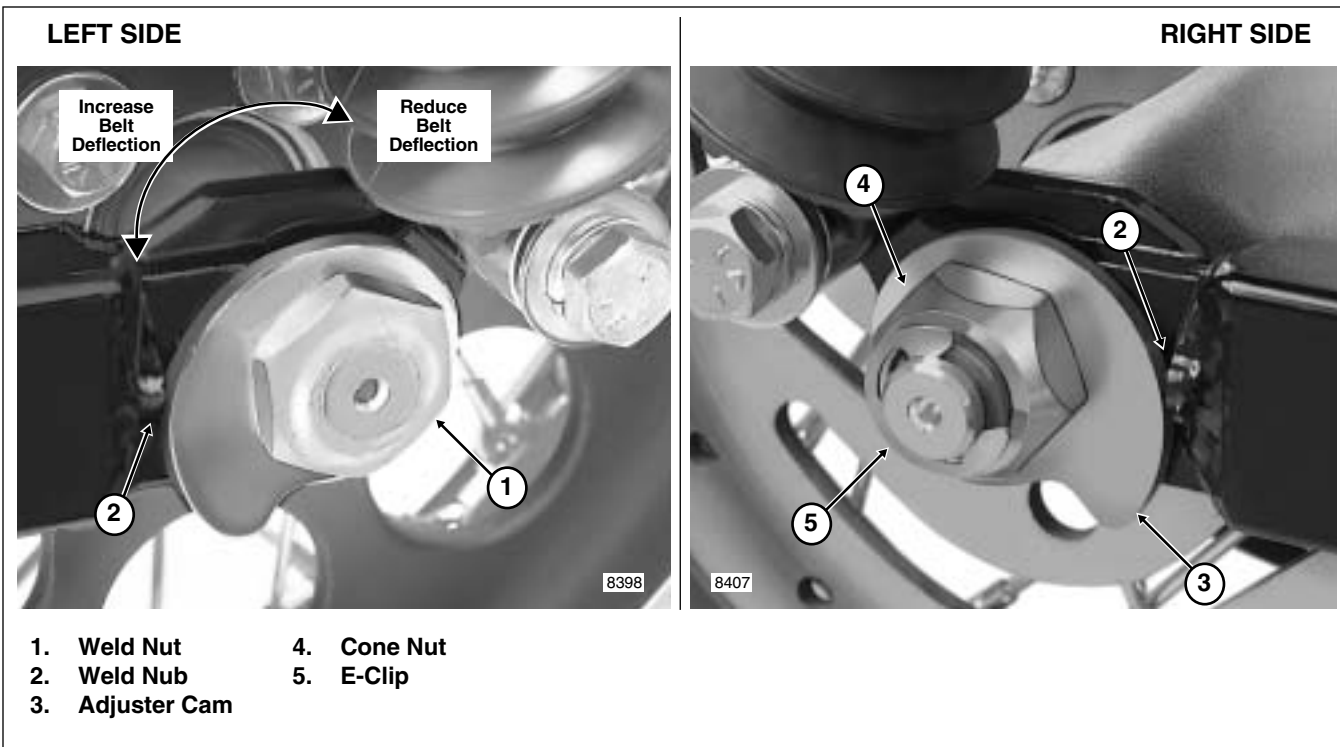

Figure 2-103. Move Rear Wheel Forward Until Adjuster Cams Just Contact Weld Nubs
- c. Verify that adjuster cam just contacts weld nub on both sides of rear swingarm. If necessary, push wheel forward slightly to achieve the desired result. Snug the cone nut to 15-20 ft-lbs (20-27 Nm). See Figure 2-103.
- b. Push wheel forward slightly so that adjuster cam just contacts weld nub on both sides of rear swingarm. See Figure 2-103.